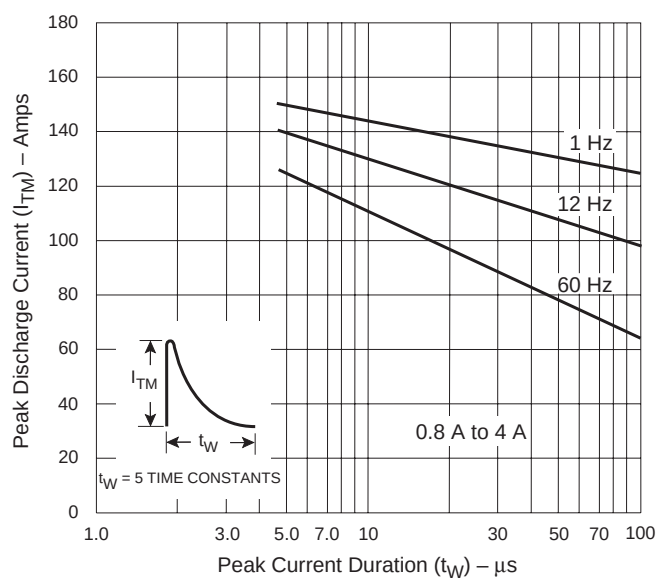
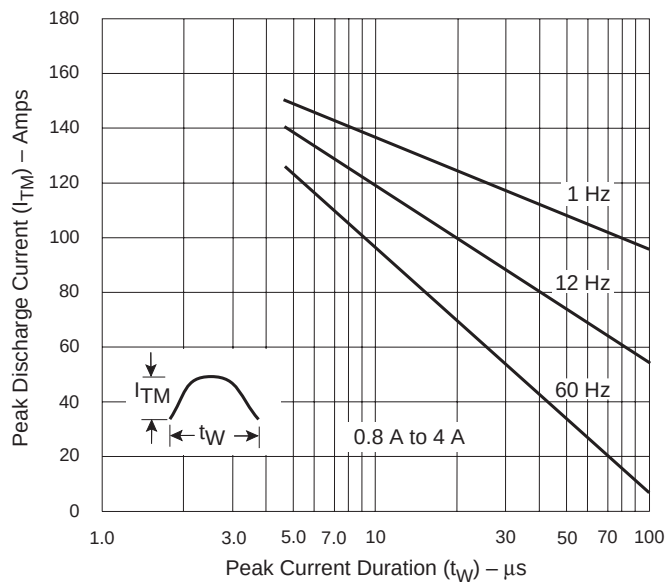

Figure E5.20 Peak Repetitive Capacitor Discharge Current
Figure E5.21 Peak Repetitive Sinusoidal Curve
- 0.8 A to 4 A devices also have a pulse peak forward current on-state rating (repetitive) of 75 A. This rating applies for operation at 60 Hz, 75 °C maximum tab (or anode) lead temperature, switching from 80 V peak, sinusoidal current pulse width of 10 μ s minimum, 15 μ s maximum. See Figure E5.20 and Figure E5.21.